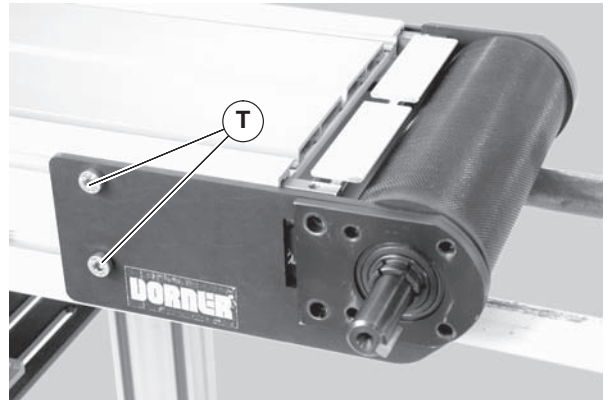

Figure 52
6. On the drive headplate, remove two (2) screws (Figure 52, item T).